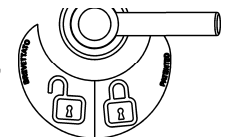

Fig. 1.8.3.2
- with the handle as shown in figure 1.8.3.2, the microswitch is turned on, the feed is locked and the machine works.